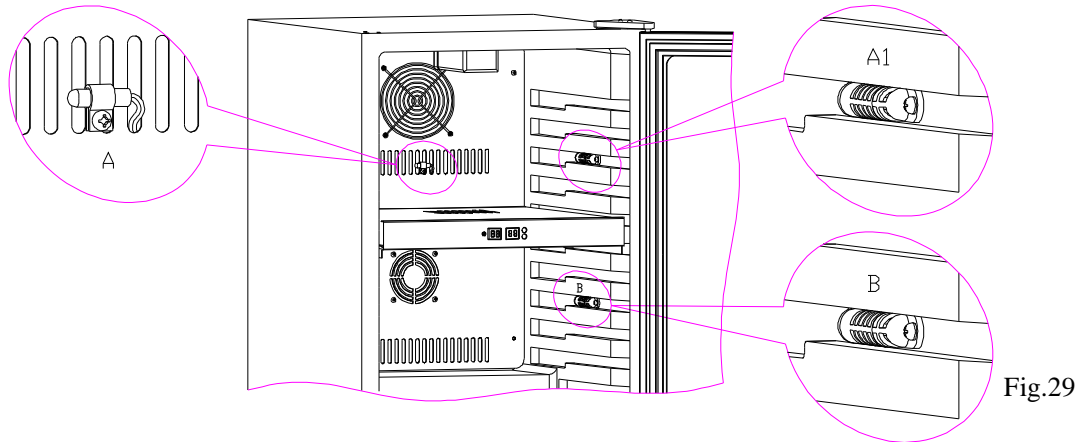
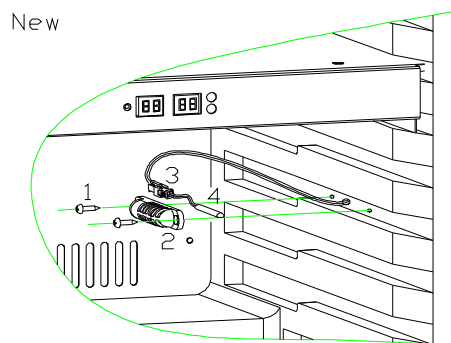
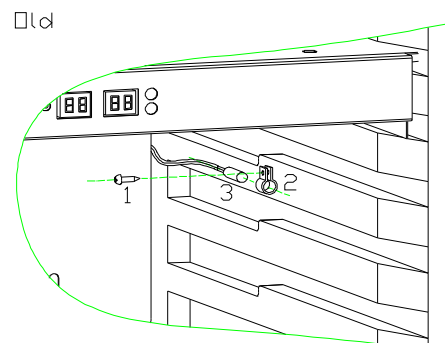

Fig.29
Fig.30
Fig.30.1
According to the different model, sensor is in the two different position. As the diagram(Fig.29) shows below A, A1.
b. As to the sensor in the point A1, there are two installation methods. As the diagram below (Fig.30 & Fig.30.1)
© The old installation version's sensor: remove the air-duct board (page 6), and take off the fixing screw (1), and take off the sensor, and unplug another terminal's from socket X1 (Fig.7) in the PCB board, and replace the sensor with the same model's (Fig.30.1).
Refrigeration compartment sensor is located on (B) of (Fig.29). It has two different installations with 2 different replacements. The replacement is similar with (A1) See (Fig.30 & Fig.30.1)
- a. The sensor of the freezing position (A). (Fig.29)
- b. The sensor of the refrigerator position, old installation method. (Fig.30.1)